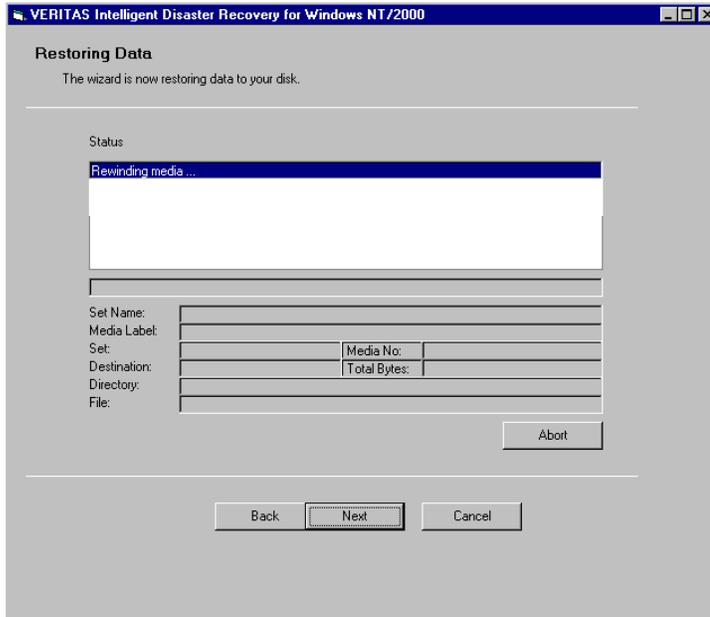

Figure 18: Restoring Data screen
- Figure 18 shows the Restoring Data screen, which provides initial information about the tape drive during the data restore process. Click Next to continue.